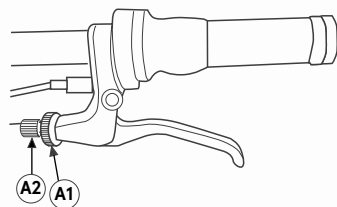
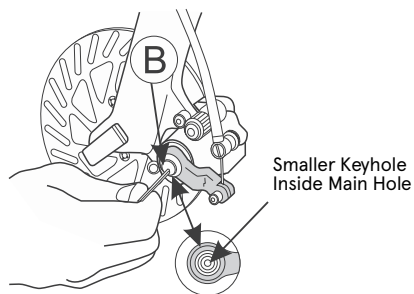

Fig. 15
Fig. 16
**Brake Lever/Cable Adjustment:** To adjust the travel of the brake lever, loosen the Locking Collar A1 (away from lever body), turn/unscrew the Adjusting Barrel A2 (what the cable enters) left/counter-clockwise which tightens cable tension and increase lever travel & leverage, this will bring the caliper brake pads closer to the disc (Fig. 15). If the pads are rubbing against the disc, reverse the process. If you have tuned the Adjusting Barrel to its maximum and the lever travel is still excessive you will have to adjust the space between the pads and the disc. Tighten the Locking Collar up to the lever body. Additional adjustments at the caliper (Fig. 16).
**Caliper Adjustment:** Insert a hex key into the smaller hole inside hex key hole B (Fig.16). Rotating the allen key clockwise/right pushes the outer brake pad forward by approx.0.8mm. After each turn, check the braking function, so the pads are close, but do not rub the disc.